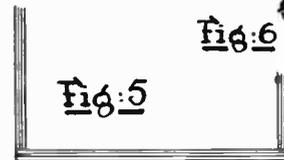

Fig. 5
The pattern, as dimensioned is correct for a box with sides $5\frac{1}{2}$ ins. by 3ins. and with bevelled edges (Fig. 4). If, however, the carcass is of some other size, the dimensions will have to be altered, chiefly by altering the $\frac{1}{4}$ in. dimensions marked 'nominal' in Fig. 1. Again, if it is desired to fit the overlays as in Fig. 5, one overlay must be as wide as the box and the other, thus plus two thicknesses of overlay.
The adjustable bevel is not on the priority list of an amateur's tools but it is by no means a fancy luxury and it will soon repay its not-too-high cost. With the bevel thus set, the position of the cross rail (C) can be marked off, starting at 3½ins. from the base. This cross-piece is of 3in. by 1in. section and is dovetailed in pieces (B), as shown in Fig. 5.